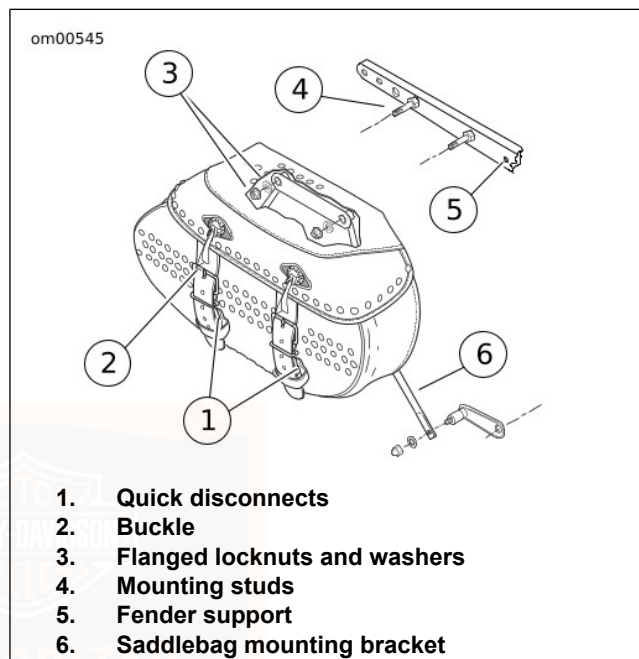

Figure 15. Saddlebag Assembly: FLSTC Shown
1. See Figure 15. Unbuckle the saddlebag straps.
1. See Figure 15. Align the saddlebag with the mounting holes on the fender support.